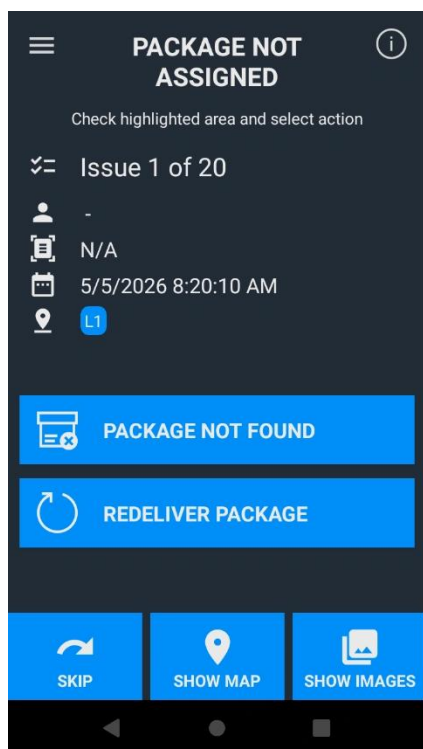

Figure 46: Package Not Assigned choices
6. The Wizard stops at the first “Package Not Assigned” issue. Determine what you are going to do with the package and tap the appropriate selection (see Figure 46):